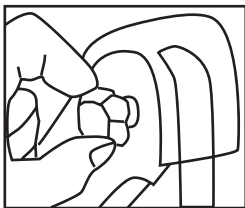

Fig. 7
3. Loosen and remove the belt cover knob at the top of the unit. (Fig. 7)